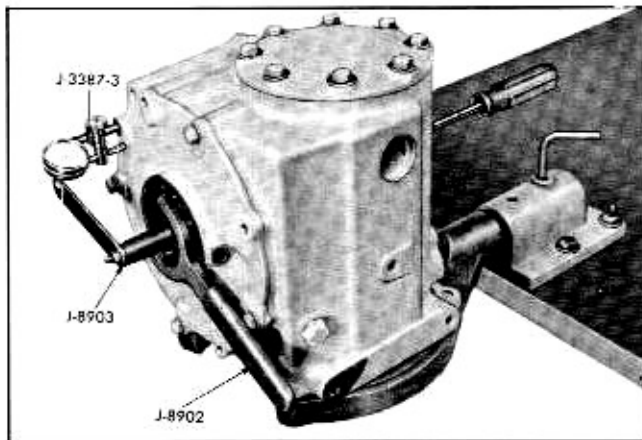

Fig. 4-57 Tools in Position for Adjusting Backlash
23. Install tool J-8903 inside of differential shaft and set up dial indicator J-8001 on support J-3387-3 as illustrated (Fig. 4-57). Dial indicator should rest squarely on line scribed on handle of J-8903.